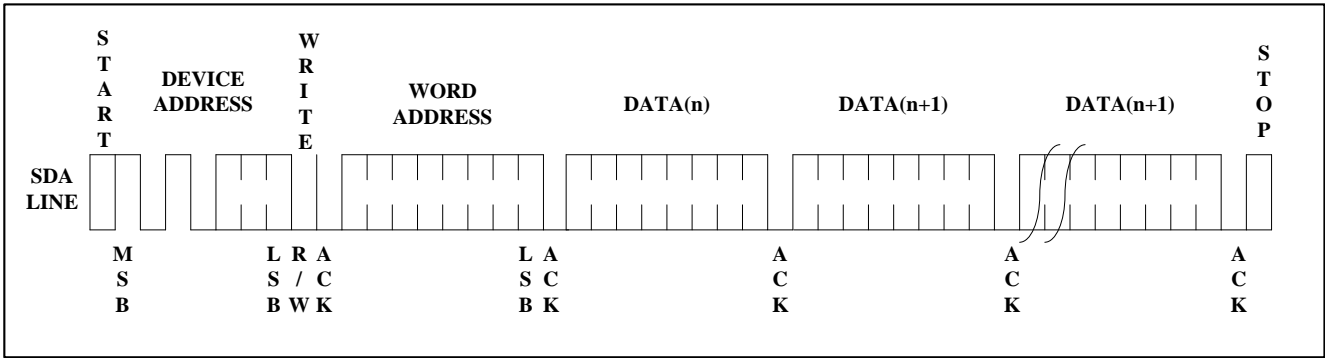

Figure 7. Page Write
**PAGE WRITE:** The 16K devices are capable of 16-byte page writes. A page write is initiated the same as a byte write, but the microcontroller does not send a stop condition after the first data word is clocked in. Instead, after the EEPROM acknowledges receipt of the first data word, the microcontroller can transmit up to fifteen more data words. The EEPROM will respond with a "0" after each data word received. The microcontroller must terminate the page write sequence with a stop condition (see Figure 7).